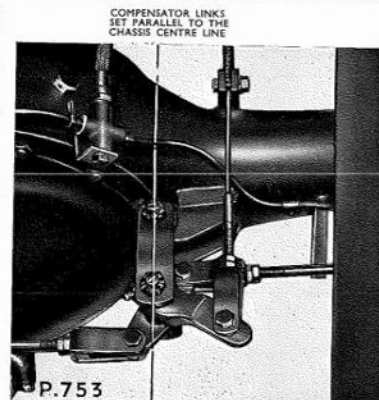

Fig. K.31. Handbrake compensator position for handbrake cable adjustment
- On KAH.30 and KAD.30 models, disconnect the handbrake cable jaw at the arm of the compensator lever and adjust the lengths of the transverse rods, leading to the wheel cylinder arm, until the compensator links are parallel to the chassis centre line and with the opposed lugs of the compensator lever sufficiently offset from the link centre line so as to prevent the lugs passing over this centre line when the handbrake is normally applied (see Fig. K.31).